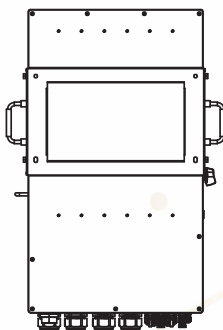

Figure 3.7 Wall Mount Bracket
2. Lift up the inverter (be careful to avoid body strain), and align the back bracket on the inverter with the convex section of the mounting bracket. Hang the inverter on the mounting bracket and make sure the inverter is secure (see Figure 3.7)